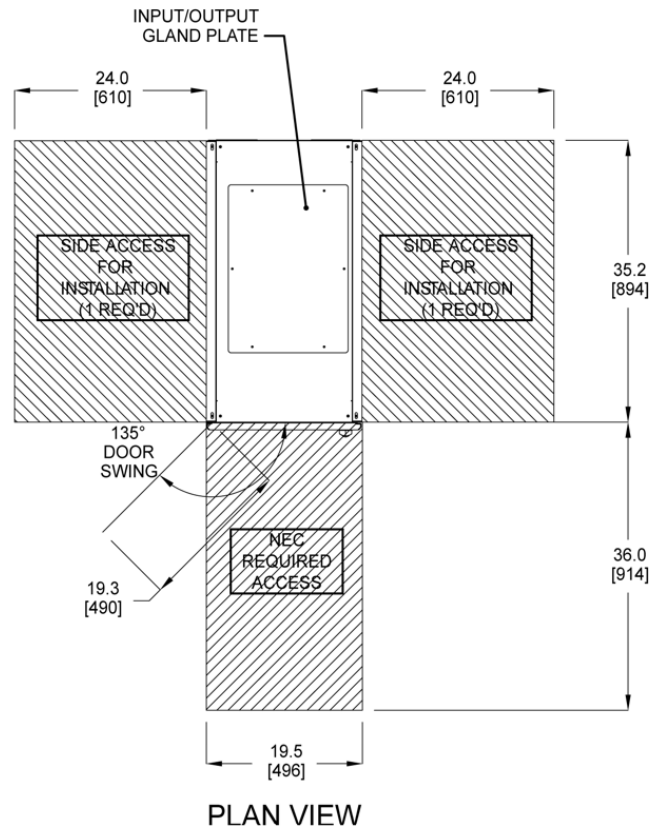

Figure 2-2 Clearances
| Figure 2-2 Clearances..... | 8 |
- Have front accessibility of 36 in. (914 mm). Only front access is necessary for service and maintenance. Refer to Figure 2-2 for minimum clearances.
Figure 3-1 shows the location of the anchoring holes. Also note in the figure, the unit has pre-cut openings for input or output cables. Figure 2-2. Clearances shows to the opening on the top of the unit for cables.